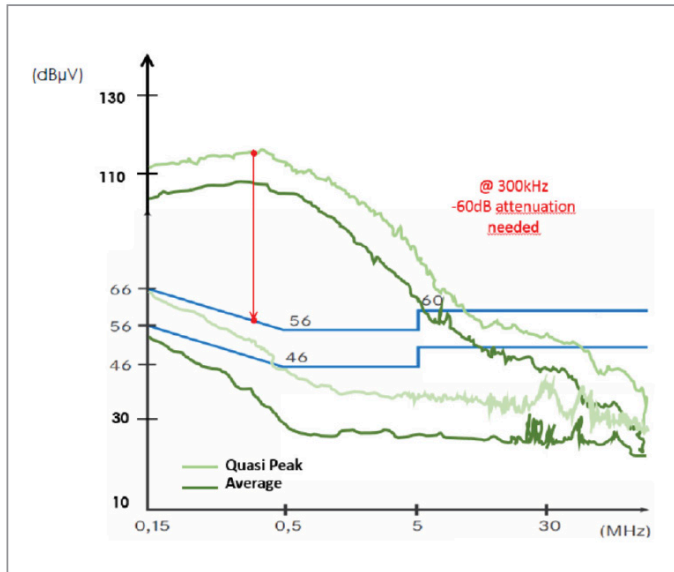

Figure 3. Typical Conducted Emission Data Scan.
- A. **Best Option:** If possible, provide a conducted emission scan with and/or without a filter to see the "real" noise profile over the complete frequency range such as shown in *Figure 3*.
- B. **Second Option:** If a complete scan is not available, then select a minimum of four frequencies such as 150 kHz, 1 MHz, 10 MHz, and 30 MHz as an example and a level of attenuation at each of these frequencies. In the example of *Figure 3*, if the complete scan was not available to us, but we know that the noise at 300 kHz requires about 60 dB of attenuation to meet the specification.
- C. **Third Option:** Specify a low level of attenuation (low being <20 dB attenuation), mid-level attenuation (mid being 20-40 dB of attenuation) or hi (hi being >40 dB attenuation). Again, using the example of *Figure 3*, one might define the attenuation desired from 150 kHz to 5 MHz as "hi" level and then from 5 MHz to 30 MHz as needing <20 dB of attenuation. If you are not sure as to what you need, then specify a high attenuation (>40 dB) filter.